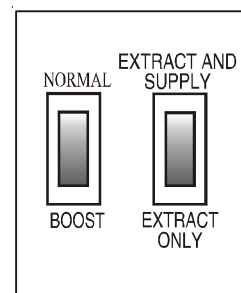

Fig. 7
- 5.2 The unit must be set up as detailed in section 5.3, so that the NORMAL setting on the fan speed control (see Fig. 7) enables the INLET fan to deliver the designed volume airflow. The switching from NORMAL to BOOST allows the unit to extract at a greater rate to cope with any increase in the build up of condensation or foul air, e.g. when cooking etc.